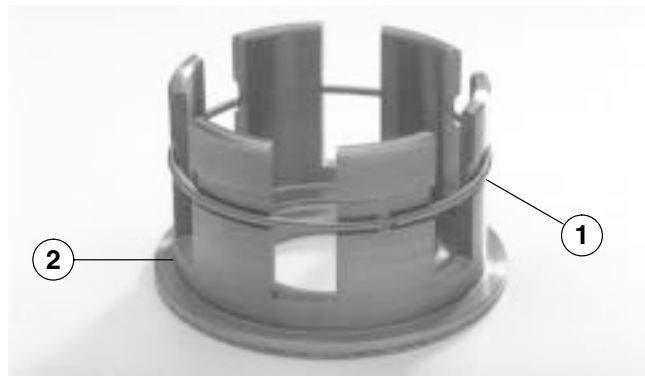

Figure 66
2. Place garter spring around the cage and into the groove (Fig. 66).